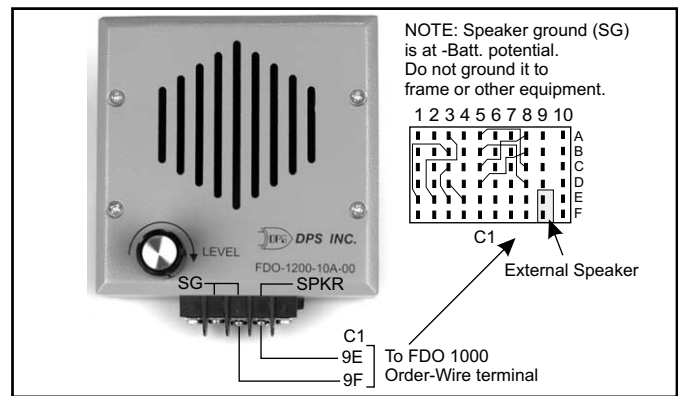

Fig. 16 - Connecting the FDO 1200 Speaker.
4. Mount the external speaker and connect to wire wrap block C1 per Fig. 16.